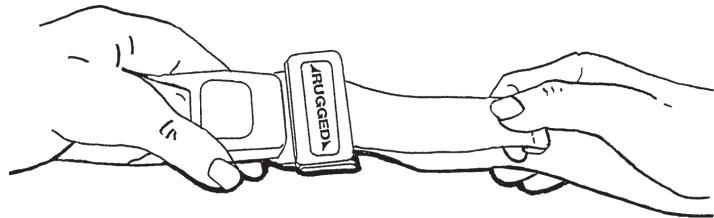

Figure 19 - Shortening the Safety Restraint
1. Grasp the hemmed tab, pull the webbing back through the latch plate until the required tightness is achieved (Fig. 19).